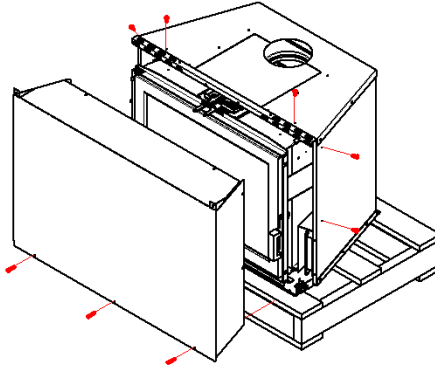

Figure 3-3: Shipping Front Cover Removal
- Unfasten and remove the front shipping cover of the unit (Figure 3-3).